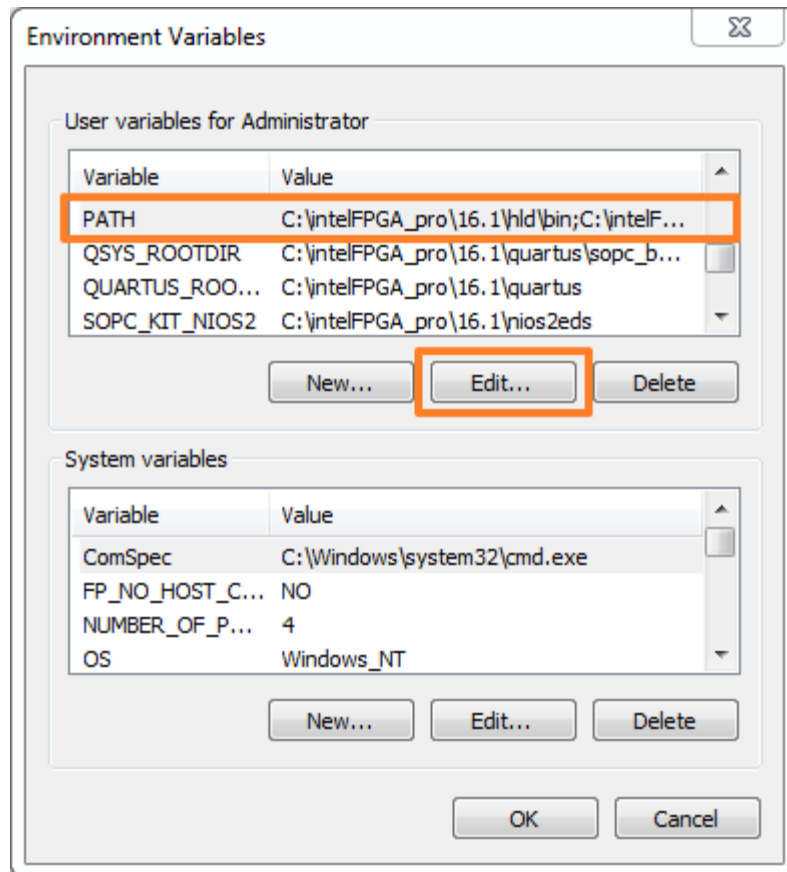

Figure 2-5 Select “Path” and click “Edit” bottom
4. In the Environment Variables window (as shown below), highlight the **PATH** variable in the Systems Variable section and click the **Edit** button as shown in Figure 2-5.